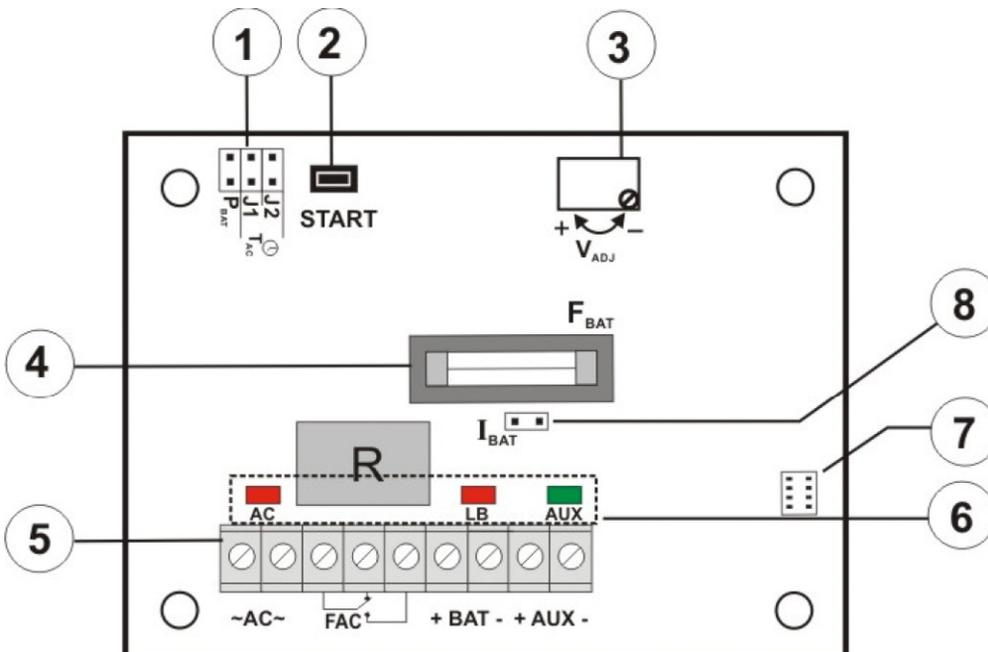

Fig. 2. View of the power supply pcb
①	<p>P_{BAT}; pins - configuration of UVP battery protection function</p> <ul style="list-style-type: none"> • P_{BAT} =  protection (disconnection) of the battery off • P_{BAT} =  protection (disconnection) of the battery on <p>TAC; pins J1, J2 - configuration of time lag of AC failure indication</p> <ul style="list-style-type: none"> • J1 = , J2 =  time lag T= 5s • J1 = , J2 =  time lag T= 140s • J1 = , J2 =  time lag T= 1040s (17m 20s) • J1 = , J2 =  time lag T= 2h 20m 30s <p>Legend:  jumper installed  jumper removed</p>
②	START button (launching from battery)
③	V_{ADJ} potentiometer, voltage adjustment DC
④	F_{BAT} fuse in the battery circuit
⑤	<p>Connectors:</p> <p>+BAT- DC supply output of the battery (+BAT= red, -BAT=black)</p> <p>+AUX- DC supply output (+AUX= +U, -AUX=GND)</p> <p>FAC - AC absence technical output – relay assisted</p> <p>Caution! In Fig.2. the set of contacts indicates potential-free status which corresponds to AC power failure.</p>
⑥	<p>LED indication:</p> <p>AC – LED for AC voltage</p> <p>LB – LED for battery charging</p> <p>AUX – LED for DC voltage</p>
⑦	Connector to the external LED indicators: AC and AUX
⑧	<p>I_{BAT}; pins – battery charging current selection</p> <ul style="list-style-type: none"> • I_{BAT} =  I_{bat} = 0,2 A • I_{BAT} =  I_{bat} = 0,5 A <p>Legend:  jumper installed  jumper removed</p>
①	Isolation transformer
②	Power upply unit board (tab. 1, fig. 2)
③	TAMPER ; microswitches (contacts) for sabotage protection (NC)
④	F_{MAIN} fuse in the power supply circuit (230V/AC)
⑤	L-N connector 230V/AC,  PE protection connector
⑥	Battery connectors +BAT = red, - BAT = black